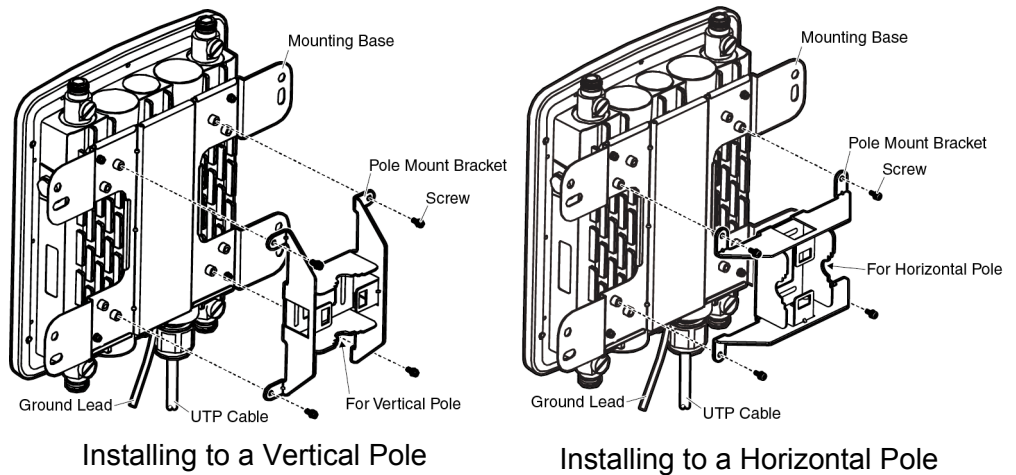

Figure 14. Attaching the Pole-Mount Bracket to the Mounting Base
3. Orient the pole-mount bracket for installing to either a vertical pole or a horizontal pole. See Figure 14.